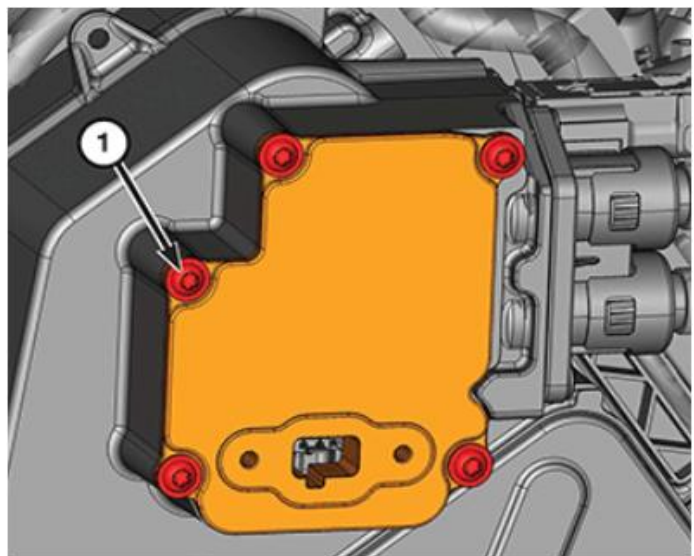

Figure 12 – PIM Cover
15. Loosen five captive screws (1) and remove the PIM cover (Figure 12).